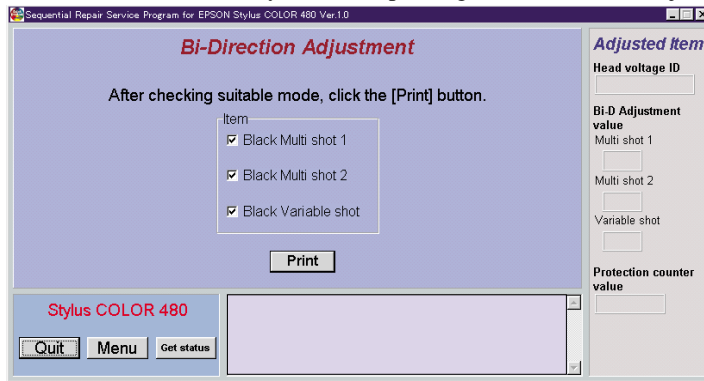

Figure 5-15. Bi-d adjustment menu
- After input the suitable pattern number, click the "Retry" button to return the Bi-directional check alignment +pattern print menu of Figure 5-15. When the "Print" button is clicked for the 2nd check pattern printing, following message is displayed. When the same paper used for 1st check pattern printing is set in the ASF and click the "OK" button in the following message, printer advances the paper automatically under the 1st printed pattern and the 2nd check pattern is printed from the position.